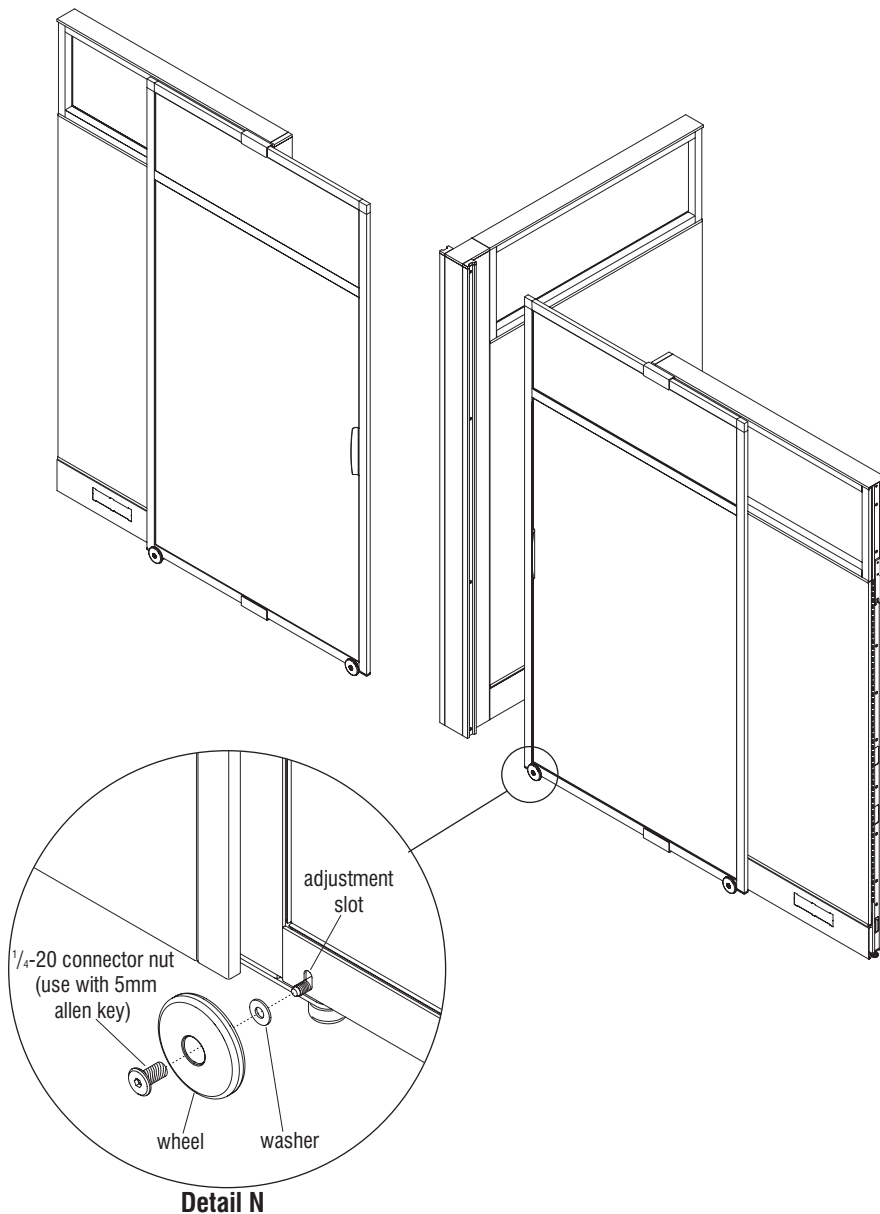

Figure 24
**Note:** The double dead end jamb post is installed to the end of a panel frame where a rolling door closes to each side of the dead end jamb post (see Figure 24). Refer to instructions at the beginning of this manual (pages 3-8, figures 1-6) for proper assembly and installation of the rolling door and components.
6. Check "plumb" of each door to the jamb rail by rolling the doors closed, then confirm that the doors contact the jamb rail in a square and even manner. If necessary adjust the door angle by loosening one or both wheels and moving the wheels up or down, then re-tightening in the new position. **(Do not remove the wheel)**. Wheel assembly shown in detail below for reference (Figure 24, Detail N).